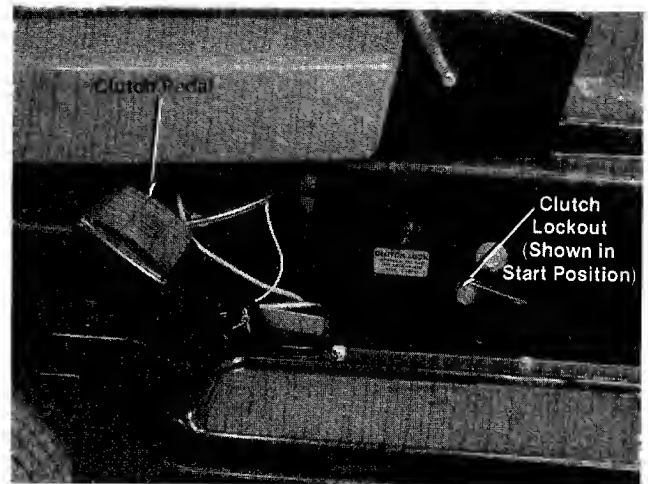

FIGURE 9. LEFT HAND CONTROLS
e. Clutch Pedal. The clutch pedal is used to disengage the drive mechanism. Depressing the clutch pedal at any time will reduce mower speed. If depressed all the way, it will stop the mower. See figure 9.
f. Clutch Lockout. When the clutch pedal is depressed all the way it can be locked by placing the clutch lockout in the START position as shown in figure 9. The clutch lockout must be in this position before the engine will start.
- Step 2. Place the clutch lockout in the START position. See figure 9.